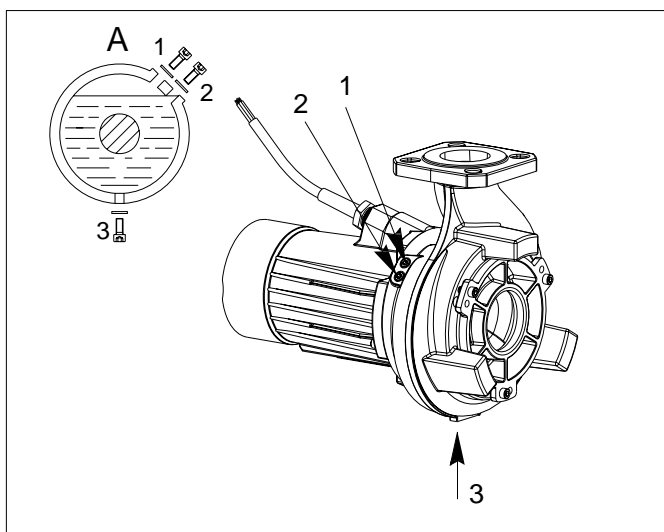

Fig. 7.3
Put the pump in a horizontal position so that the 2 hexagonal socket screws are on top (see fig.7.3). Unscrew the level plug (1) and the vent plug (2).